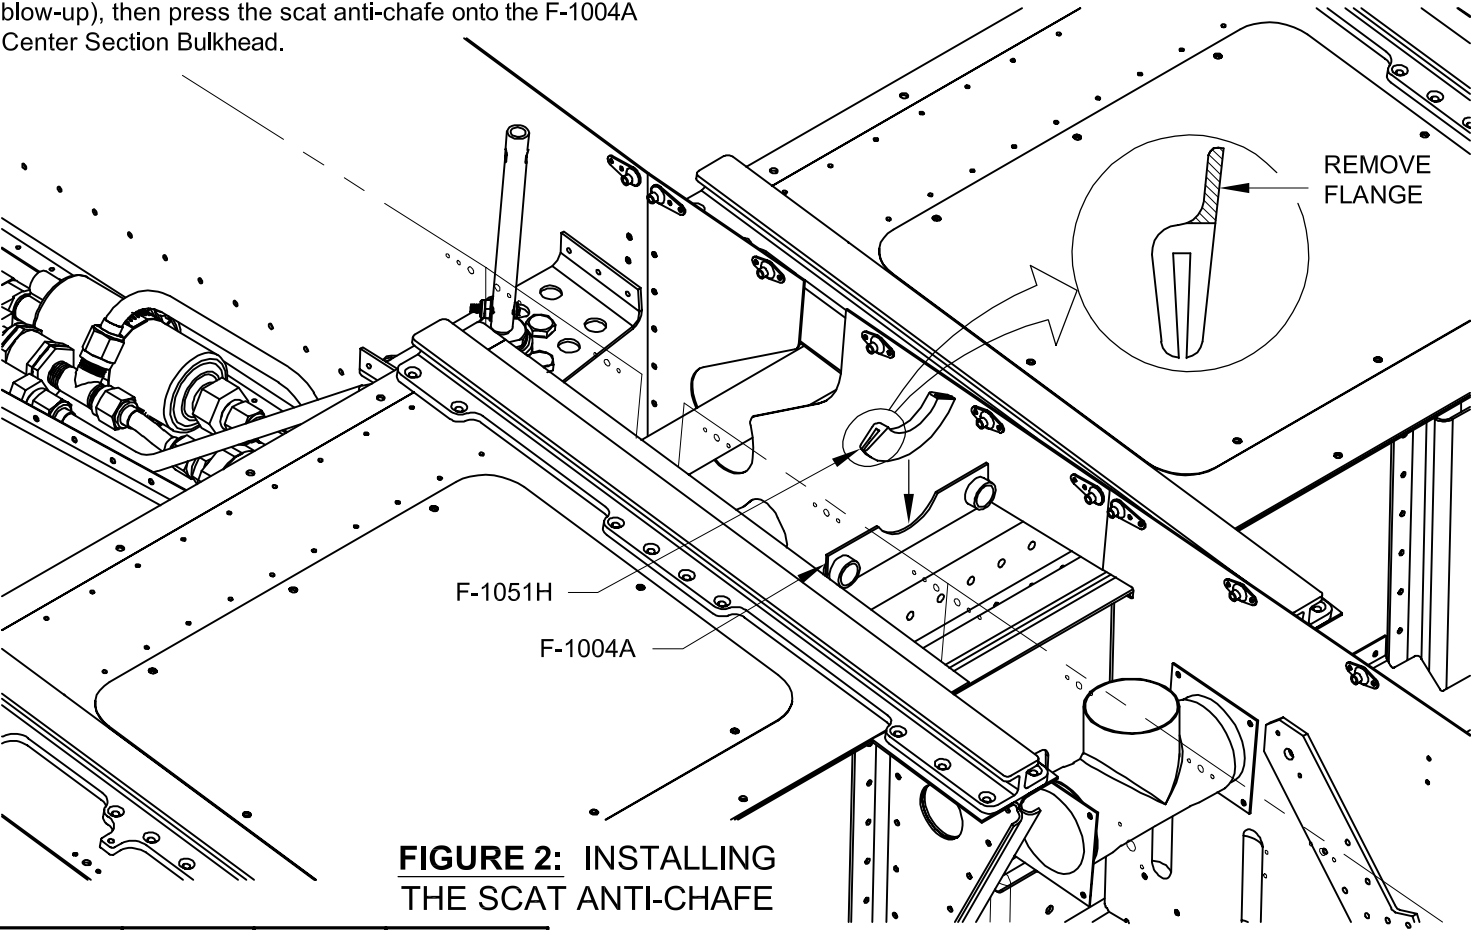

FIGURE 2: INSTALLING THE SCAT ANTI-CHAFE
Step 2: Cut a piece of Rubber Channel to make the F-1051H Scat Anti-Chafe shown in Figure 2. Remove the top flange (see the blow-up), then press the scat anti-chafe onto the F-1004A Center Section Bulkhead.